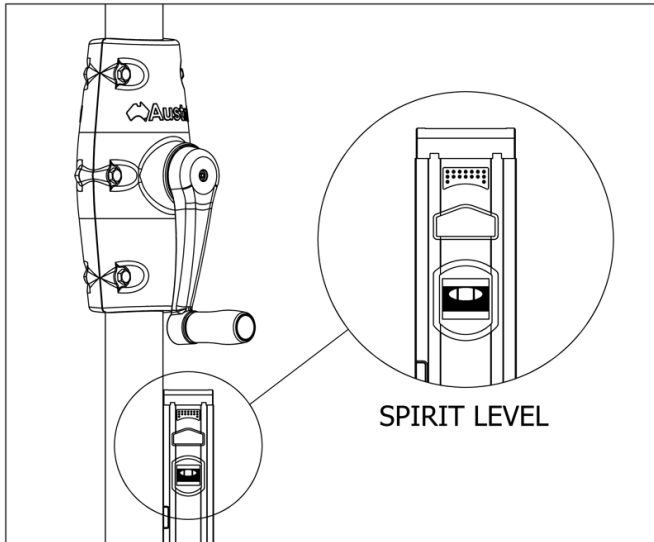

Fig 2. Plumb Column
4. Fill the hole with concrete and use a spirit level to ensure the column is plumb. (Fig. 2).